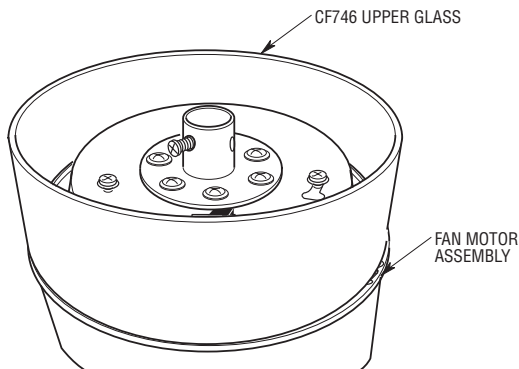

Figure 5
- 7. Place the upper glass carefully on the fan motor assembly (Figures 5 and 6).